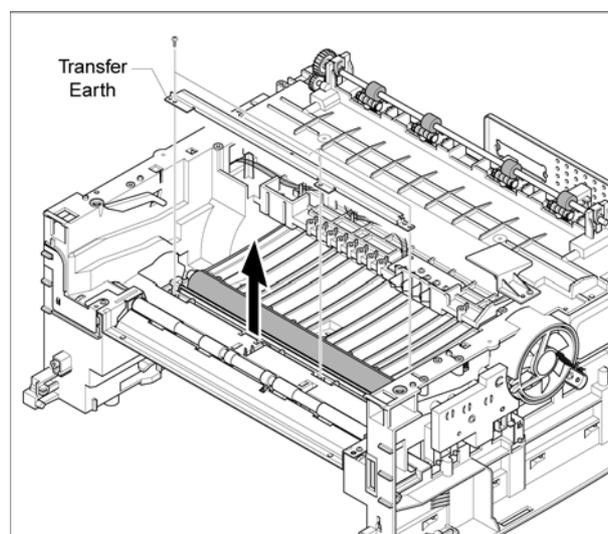

Figure 1
2. Remove 3 screws, then the Transfer Earth, Figure 1.